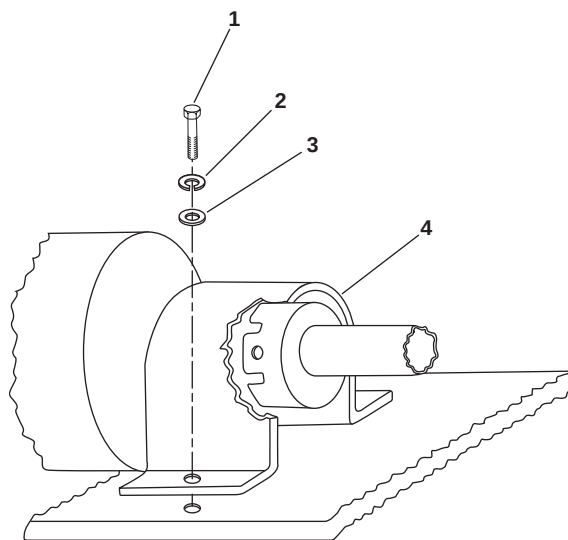

Figure 2. Coupling Guard
5. Remove the two bolts (figure 2, item 1), two lockwashers (figure 2, item 2) and the two flat washers (figure 2, items 3) from the coupling guard (figure 2, item 4). Discard the lockwashers.
6. Remove the coupling guard (figure 2, item 4).